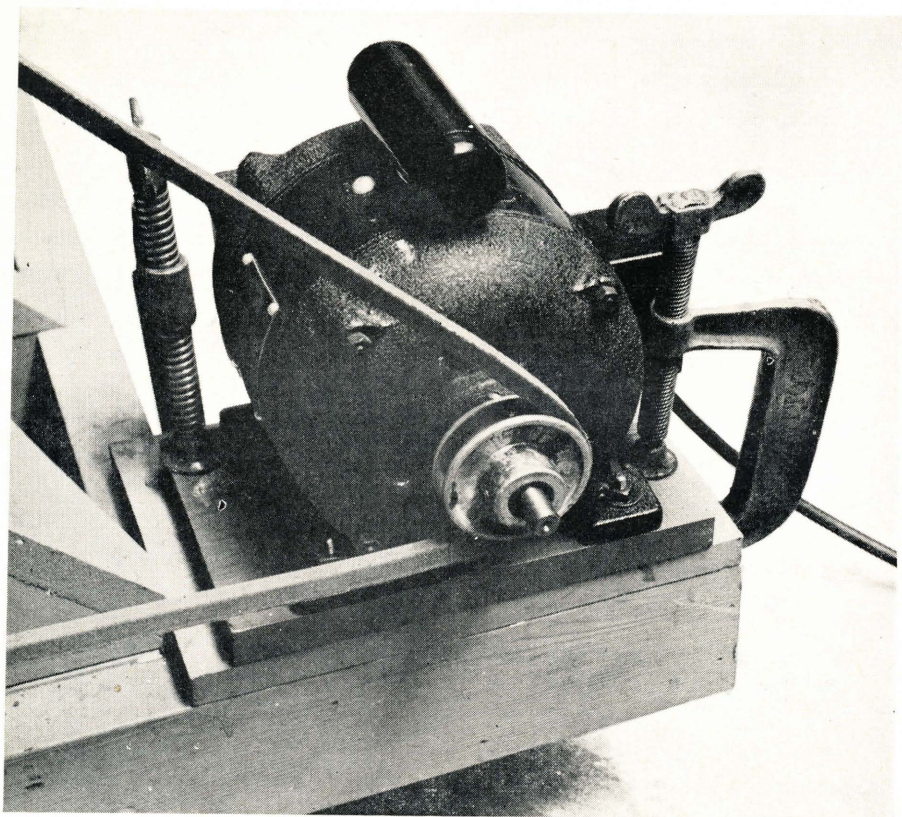

Fig. 13. The use of C-clamps in making a motor portable.
2. Figure 13 shows the "C" clamp method. Mount the motor on a board slightly larger than the motor. The motor can then be clamped to almost any piece of equipment with two 5-inch "C" clamps. An